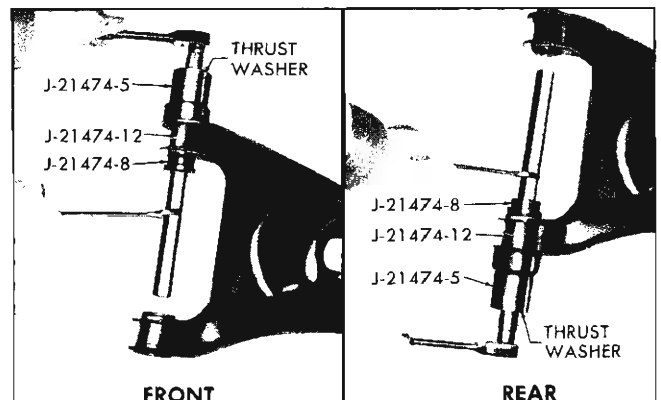

Fig. 36—Lower Control Arm Bushing Removal—Chevelle
2. Install Tools J-21058, J-21474-5 and J-21474-8 (small end) over the control arm front bushing, as shown in Figure 36. Tool J-21474-12 prevents collapse of the control arm.
4. Perform the same operation on the control arm rear bushing, using the large end of J-21474-8 and installing the various tools as shown in Figure 36.